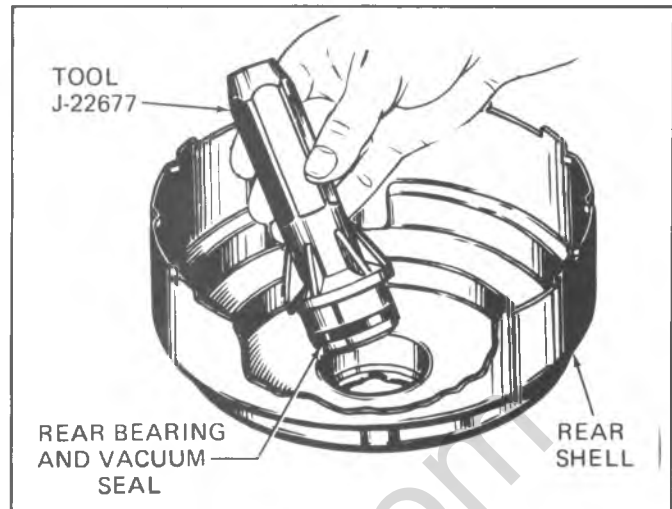

Fig. 5-8B--Installing Rear Bearing and Vacuum Seal
1. Press the new bearing and seal into the cavity in the rear housing using Tool J-22677 (fig. 5-8B). The flat rubber surface of the seal should be  $5/16$ " below the flat, inside surface of the rear housing.